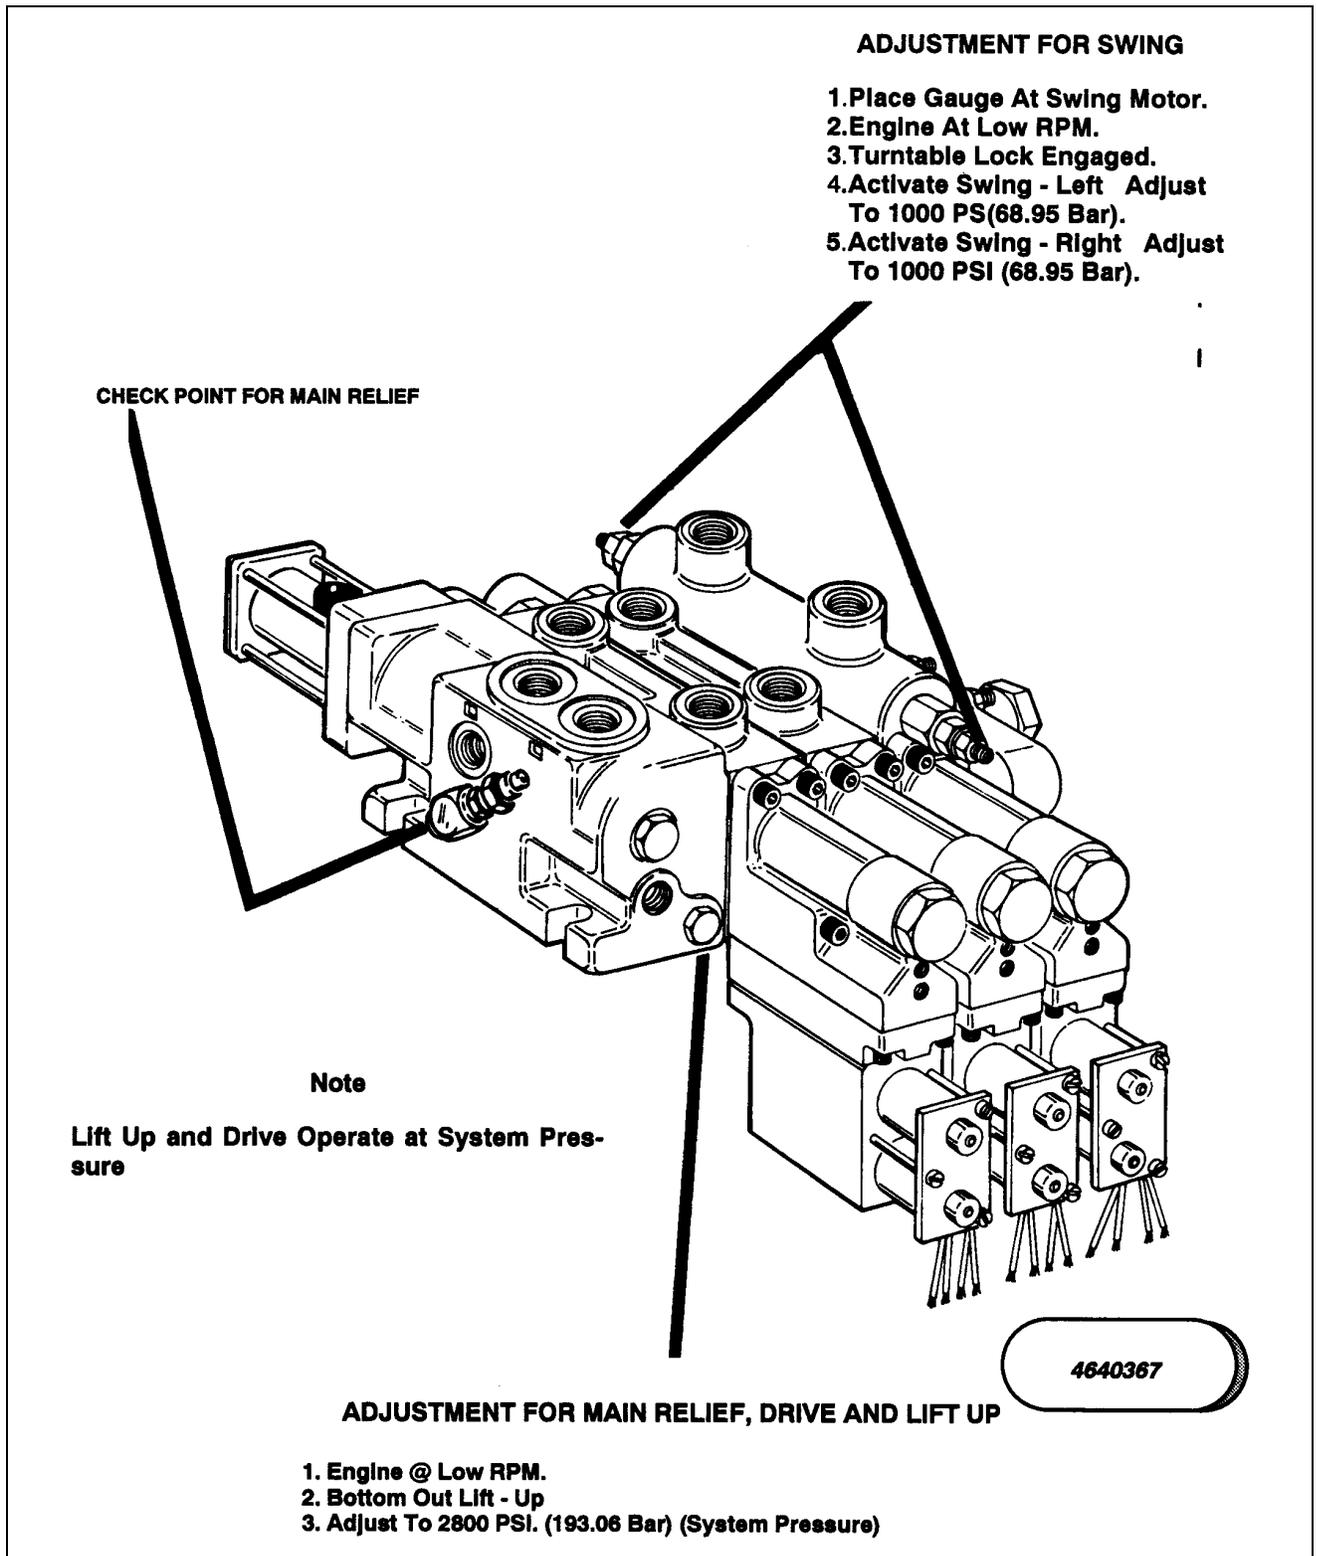

Figure 2-12. Racine Proportional Valve Pressure Setting.(Machines Built Prior To Mid 1987) (Sheet 1 of 2)
- a. Racine Proportional Valve Pressure Setting, Machines Built Prior To Mid 1987 are shown in Figure 2-12, and 2-13.